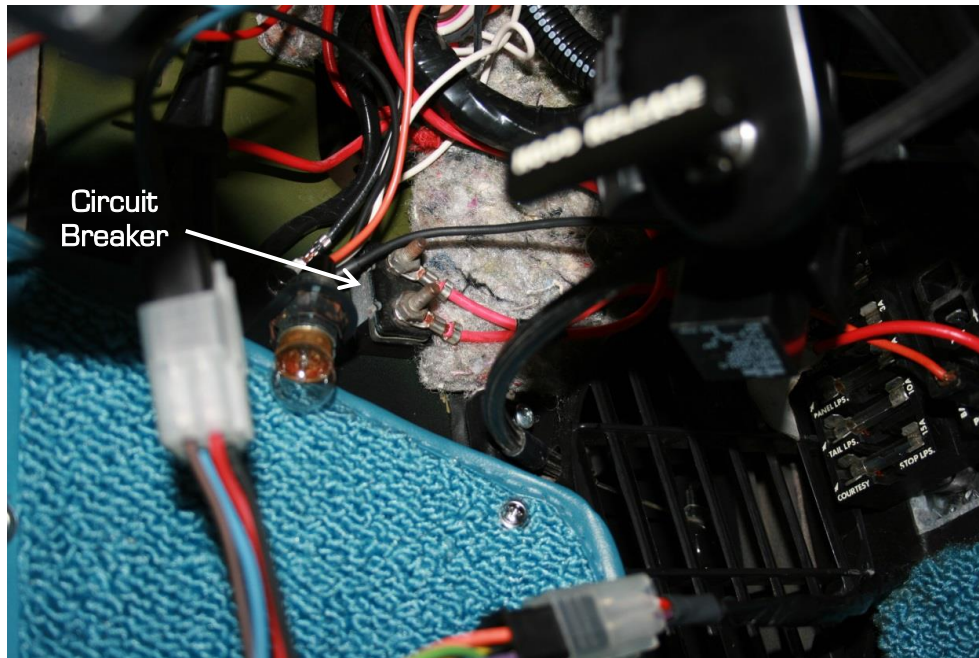
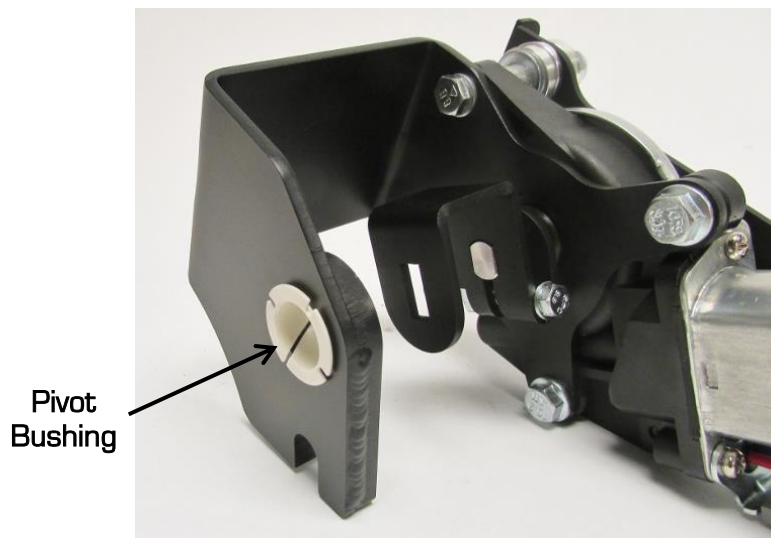

Figure 1 – Locate Circuit Breaker
Figure 4 – Install Pivot Bushing
7. With the motor assemblies removed, ensure that the plastic bushings that are located between the motor brackets and the headlamp door pivot shafts (the same bushing that is supplied in the kit (identified as item 5 in Figure 1) are in the brackets. If they did not stay in the motor brackets when removed, remove them from the headlight door pivot shafts or they will interfere with the installation of the new motors.
8. Identify the driver's side actuator assembly (Item 1) from Figure 1 and install a pivot bushing (Item 5) into the mounting bore (Figure 4).